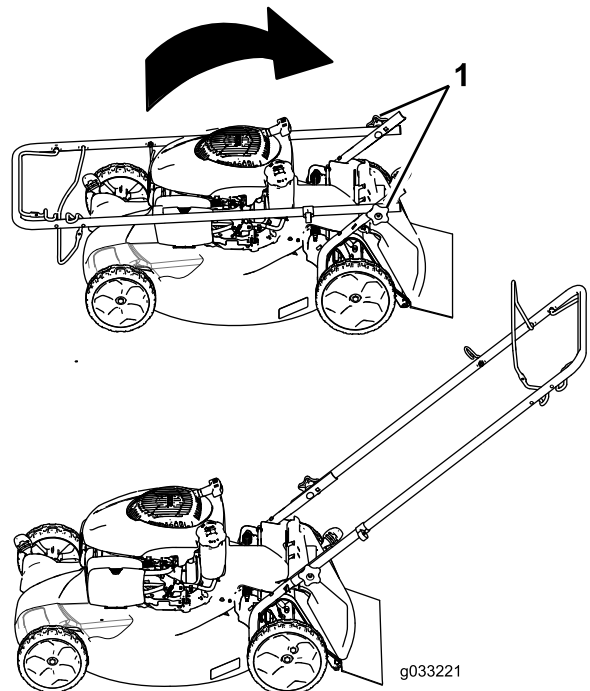

Figure 3
1. Remove the handle knobs from the machine housing (Figure 3).
Important: Route the cables to the outside of the handle as you unfold the handle (Figure 3).
2. Move the handle to the operating position (Figure 3).